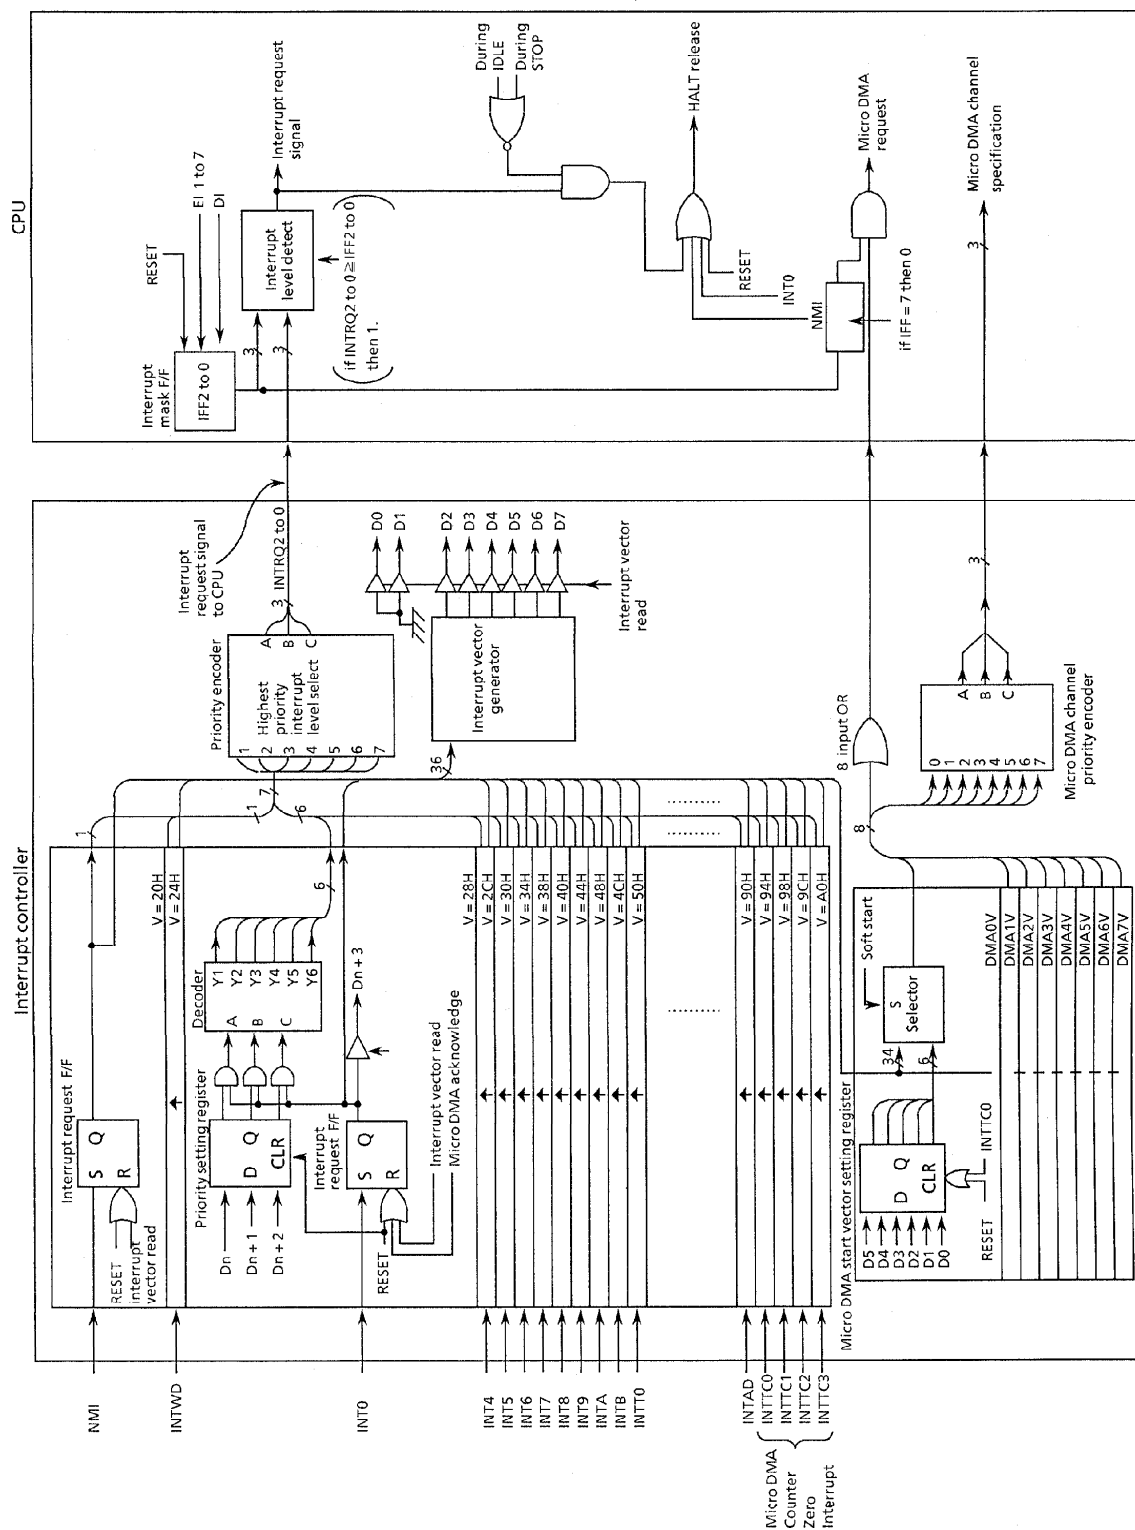

Figure 3.3.3 (1) Block Diagram of Interrupt Controller
Figure 3.3.3 (1) is a block diagram of the interrupt circuit. The left-hand side of the diagram shows the interrupt controller circuit. The right-hand side shows the CPU interrupt request signal circuit and the halt release circuit.